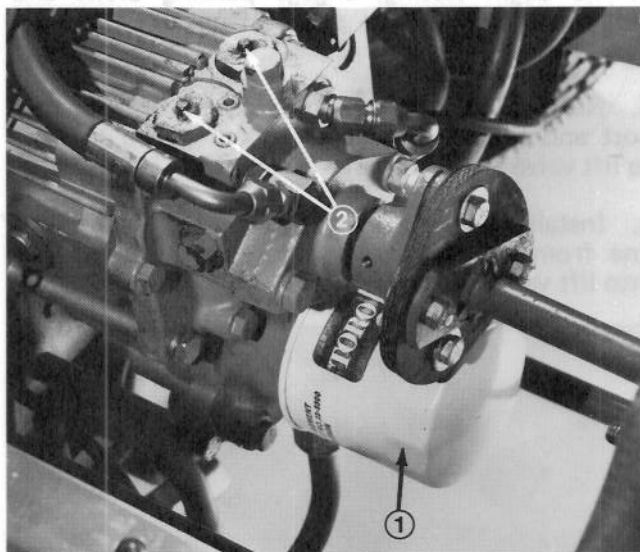

Figure 73
1. Remove hydraulic oil filter from mounting head (Fig. 73). Dispose of the filter properly.
Apply a liberal amount of No. 2 General Purpose Lithium Base Grease to the two by-pass valve pins located on top of the transmission to prevent corrosion build-up which could lock the pins into the by-pass position and cause internal transmission failure (Fig. 73).